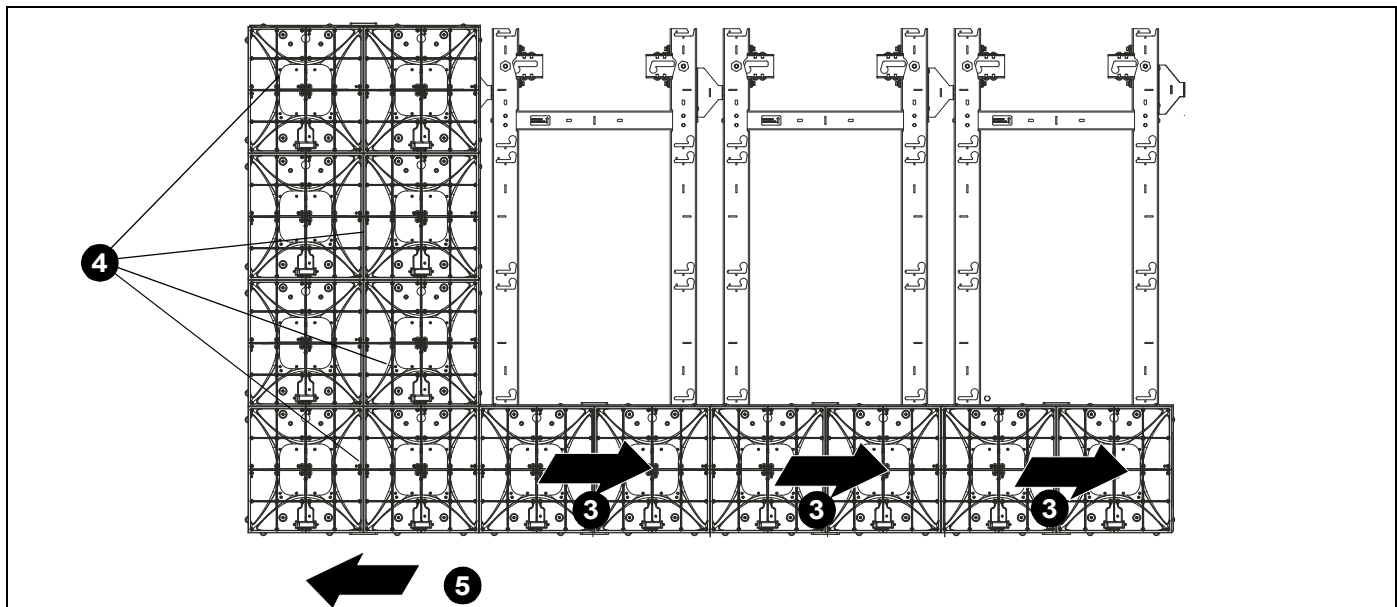

Figure 25
3. Move all cabinets to the right side of the mounting slots. (See Figure 25)
4. Install the far left column of cabinets. (See Figure 25)
5. Slide left column all the way to the left to allow for clearance when installing the next column. (See Figure 25)